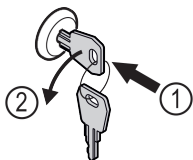

Fig. 125
- ▶ Insert the key. Fig. 125 (1)
- ▶ Turn the key anticlockwise by 90°. Fig. 125 (2)